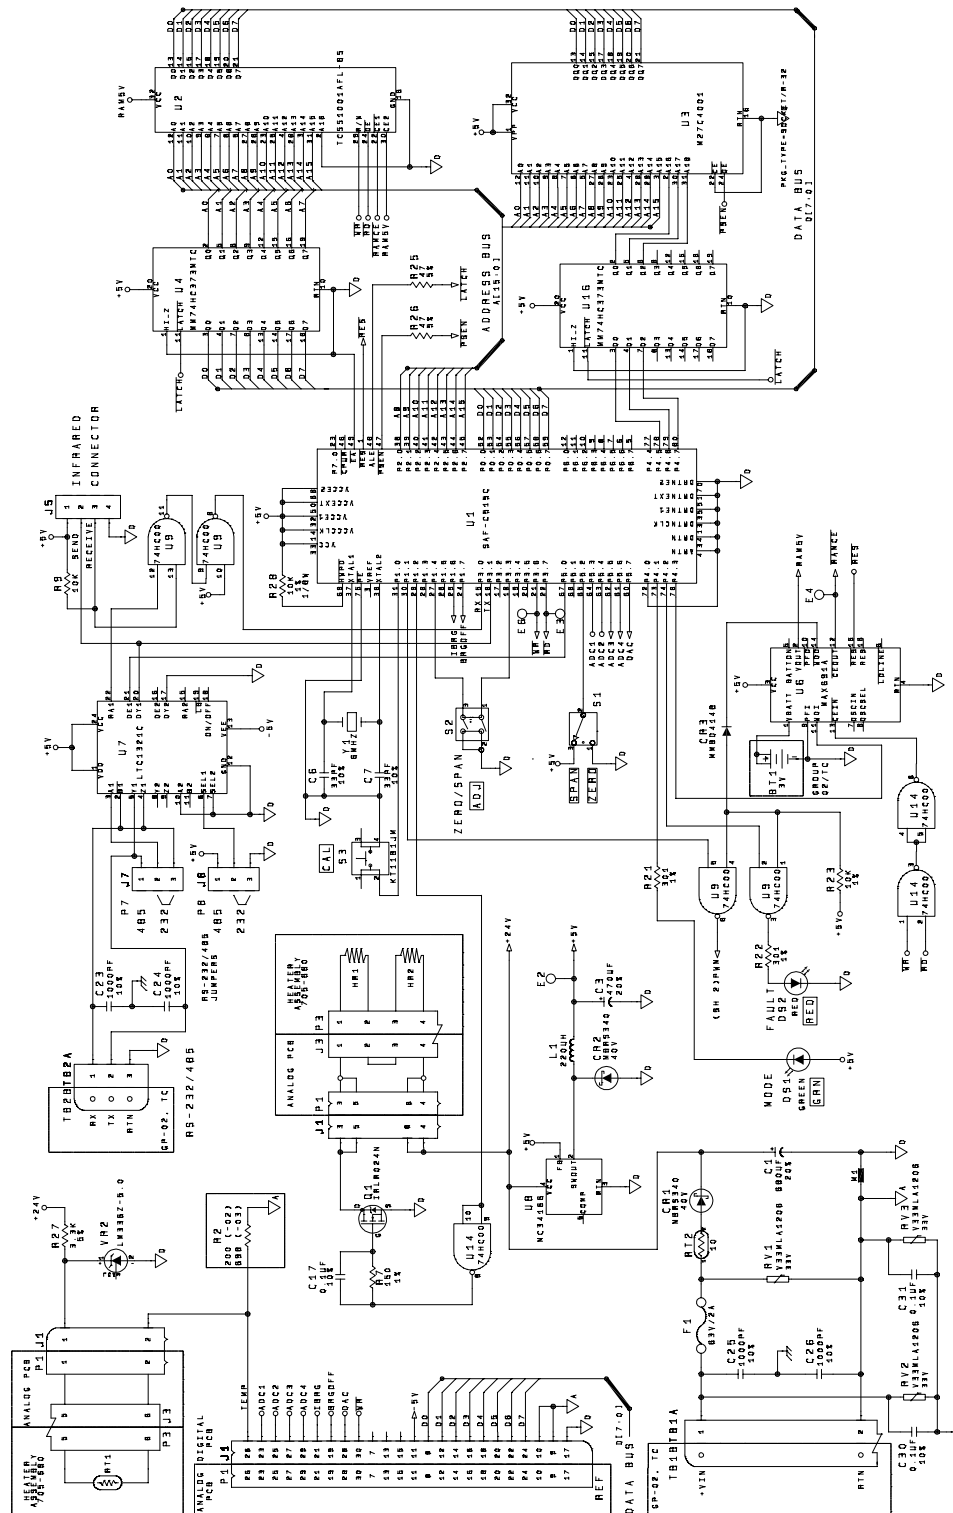

Figure 67: Digital PCB schematic (ref. dwg #700-1316, rev. H, sh. 1)
- Figure 67, "Digital PCB Schematic (ref. dwg #700-1316, rev. H, sh. 1)" on page 52